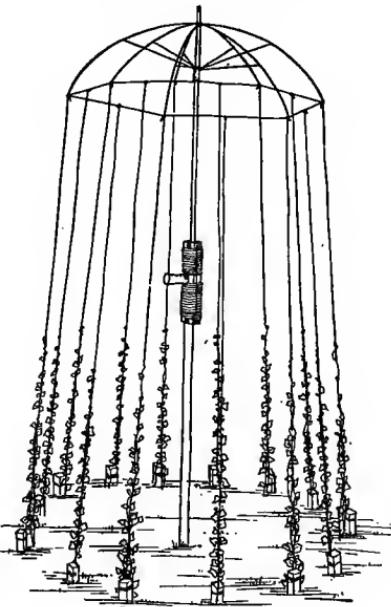

FIG. 592.—An Umbrella Bower.
**The Umbrella Bower** shown in Fig. 592 makes a splendid support for morning-glory, wild cucumber, and Madeira vines. A worn-out umbrella which is past repair should be used. If any ribs are broken, it is a simple matter to bind a piece of heavy wire to them, so as to stiffen them; and if the connections have rusted through, they may be wired back into place well enough to serve your purpose.
Set the lower end of the broom-handle into the ground in a spot in the garden or on the lawn suitable for a vine rack. Run a cord around the ends of the umbrella-ribs, slipping it through the eye of each rib; then tie a piece of cord to this cord, at each rib, and another in the center of each space between (Fig. 592), and tie the other end of these cords to stakes driven into the ground directly in line with the points at which they are tied above, but about 6 inches farther away from the broom-handle.